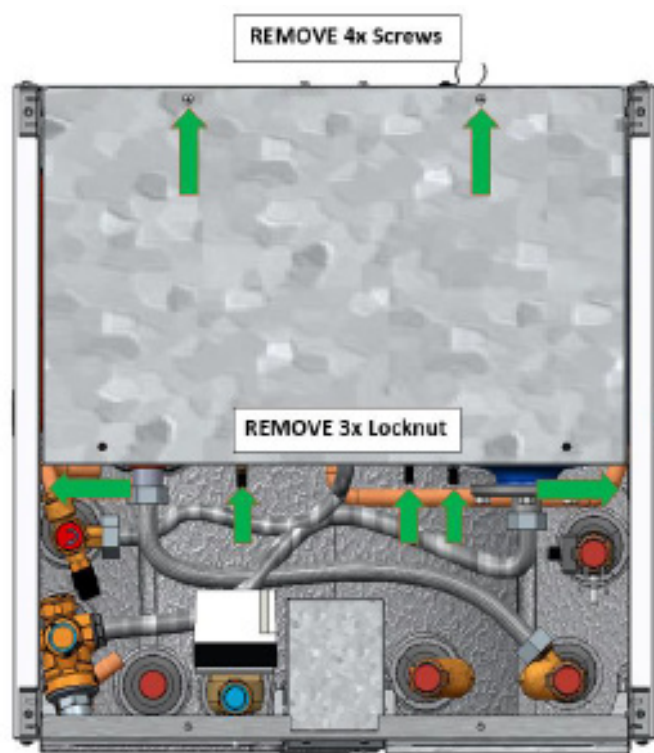

Fig. 90 : Removing Locknuts and screws
6. Disassemble the bracket holding down the expansion vessels by unscrewing the four screws shown in Fig. 90; remove the locknuts attaching the schrader extension hose and the bracket.